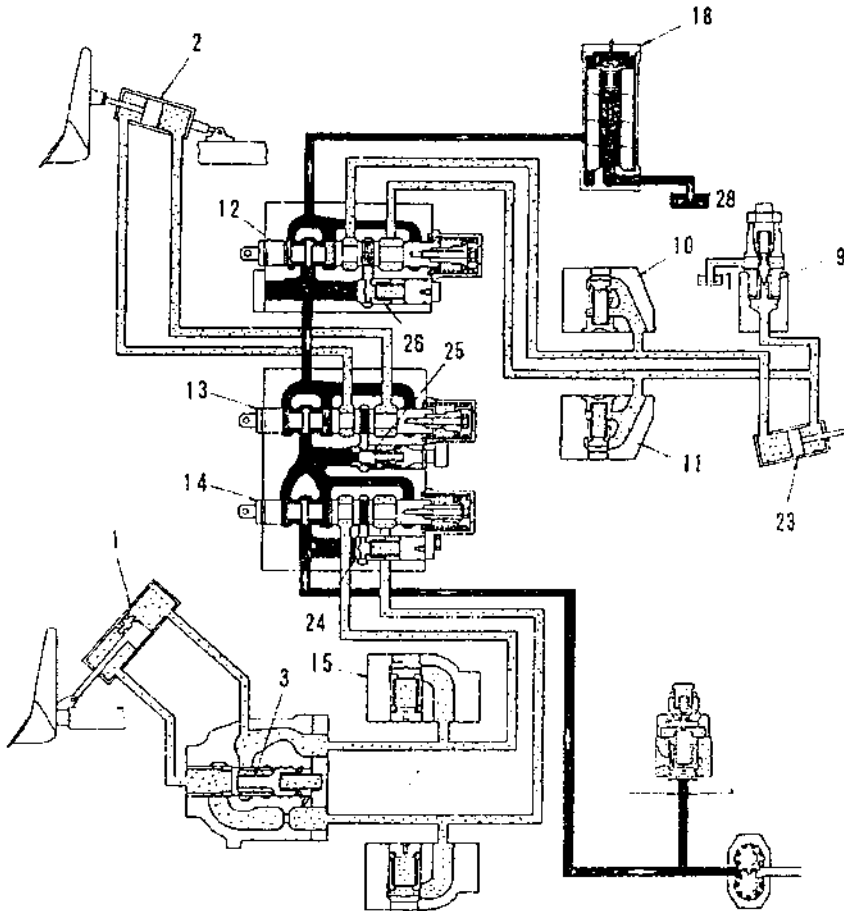

Fig. 2-48 Hydraulic operation principle of working equipment
2. Hydraulic operation principle of working equipment(See Fig. 2-48).
When the direction of applied force is identical with that of movement of the cylinder's piston, vacuum is formed inside the cylinder. The oil make-up valve (10), (11), (15), (16) in Fig. 2-48 should be installed, their structures are shown in Fig. 2-51 and Fig. 2-52.